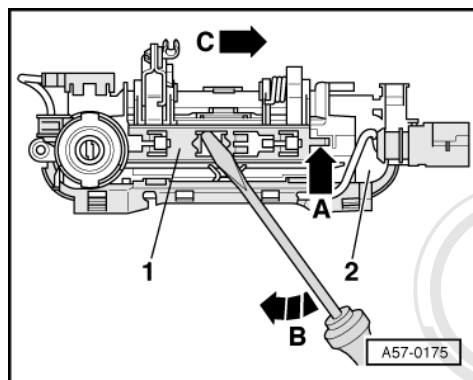

Fig.1 -> Releasing mount for door handle
- ♦ Release slide on door handle mount -1- using a screwdriver => Fig. 1.